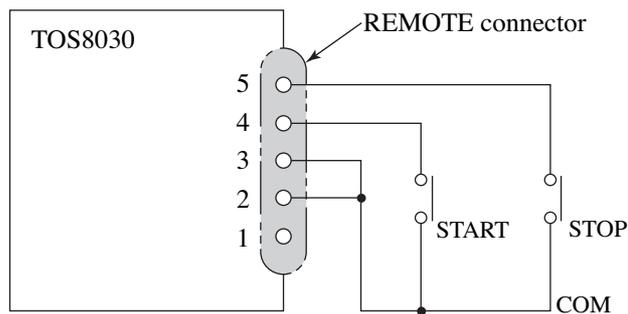
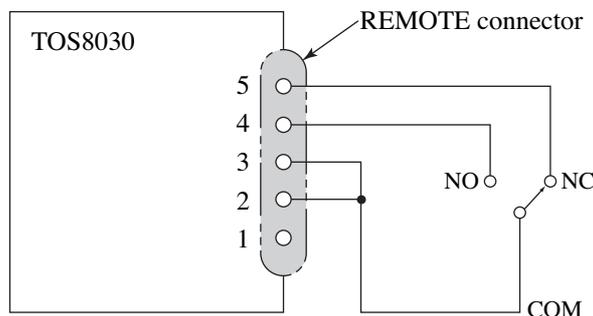
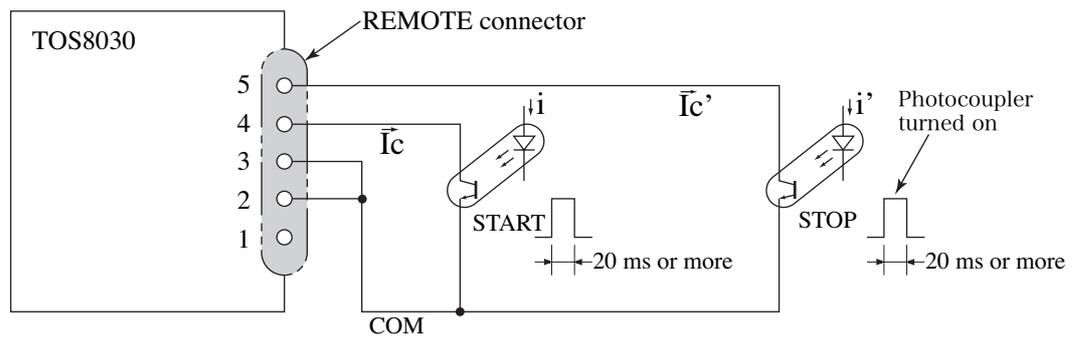

Fig. 6-2 Example: Circuit 1
Fig. 6-3 Example: Circuit 2
Fig. 6-4 Example: Circuit 3
Logic elements, transistors, photocouplers, or other elements may take the place of contacts in Fig. 6-2. Fig. 6-3 shows one example.
- For elements connected to the tester, using photocouplers as shown in Fig. 6-4 or relays as shown in Fig. 6-3 appears to be advantageous, in that they are capable of reducing the incidence of noise-induced system malfunctions.